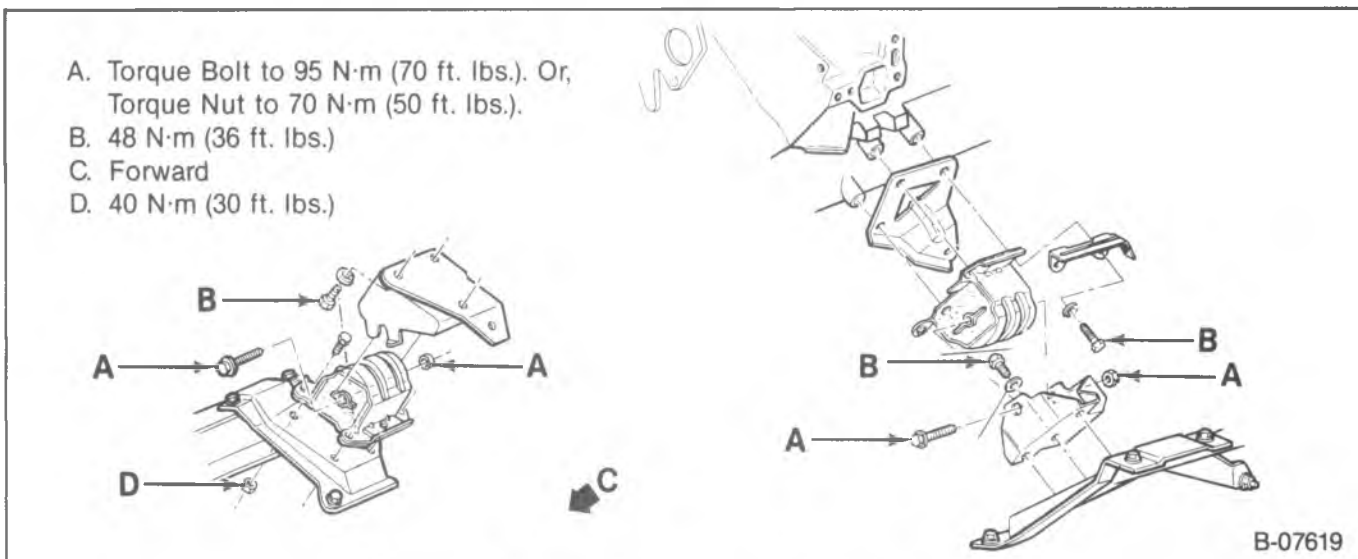

Figure 36—Front Engine Mounting (R and V Models)
Remove or Disconnect (Figures 36 and 37)
Install or Connect (Figures 36 and 37)
- Fasteners to specifications. Refer to figures 36 and 37.
- Through-bolt or nut to specifications. Refer to figures 36 and 37.
Install or Connect (Figure 36)
- Fasteners to specifications. Refer to figure 36.